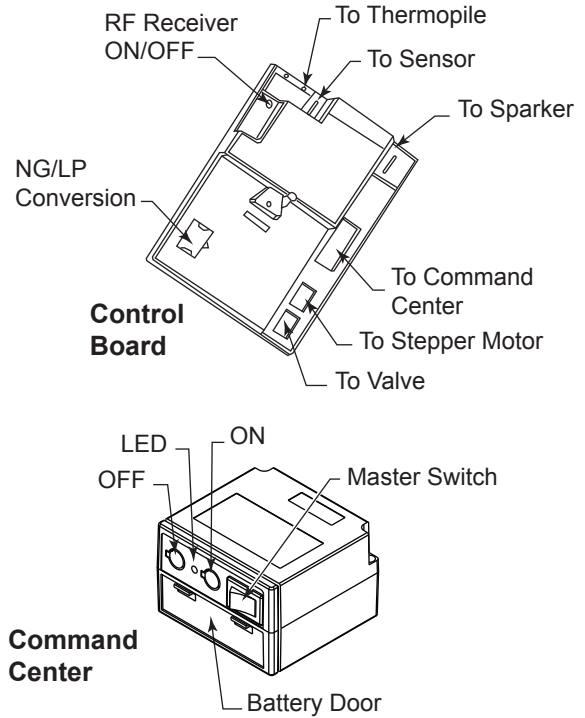

Figure 42 - Signature Command System Components
1. The RF receiver button located on the Control Board must be in the on position before the learn function can begin. Use paper clip to depress button. One beep for RF receiver ON or two beeps for RF receiver OFF will be given as confirmation. Refer to Figure 42 for location.